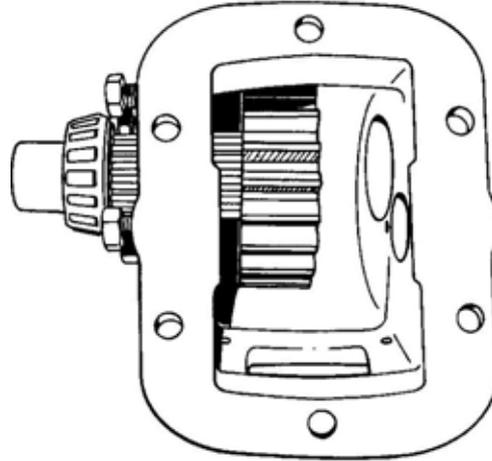

Figure 4 Installing the Drive Shaft And Gear
- b. Install a circlip onto the drive shaft, then position the shaft partially in the housing ensuring that the output end of the shaft is on the correct side of the housing. Install the drive gear in the housing and align it with the drive shaft. Feed the drive shaft into the housing and through the drive gear (Figure 4).